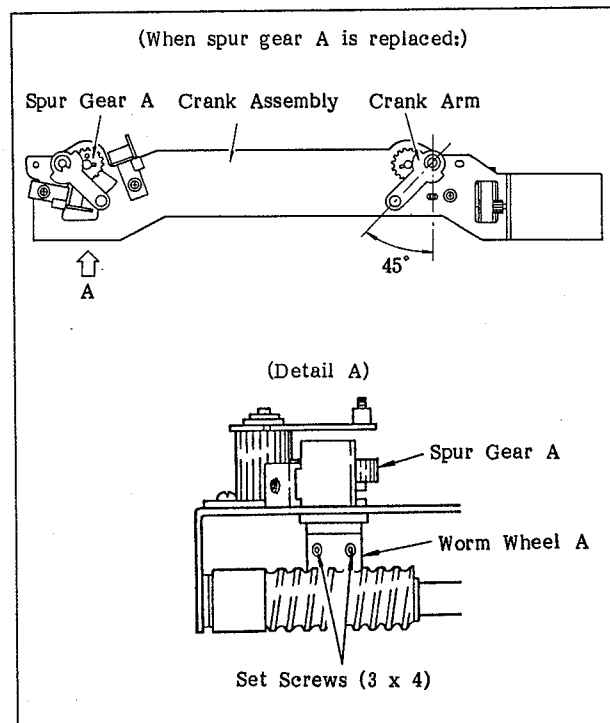

Fig. 6-40 Replacing Spur Gear A
5. Replace spur gear (A or B) with a new one, and then turn the crank arm in the direction of the arrow shown in the drawing (Figure 6-40 in case of spur gear A, or Figure 6-41 in case of spur gear B).